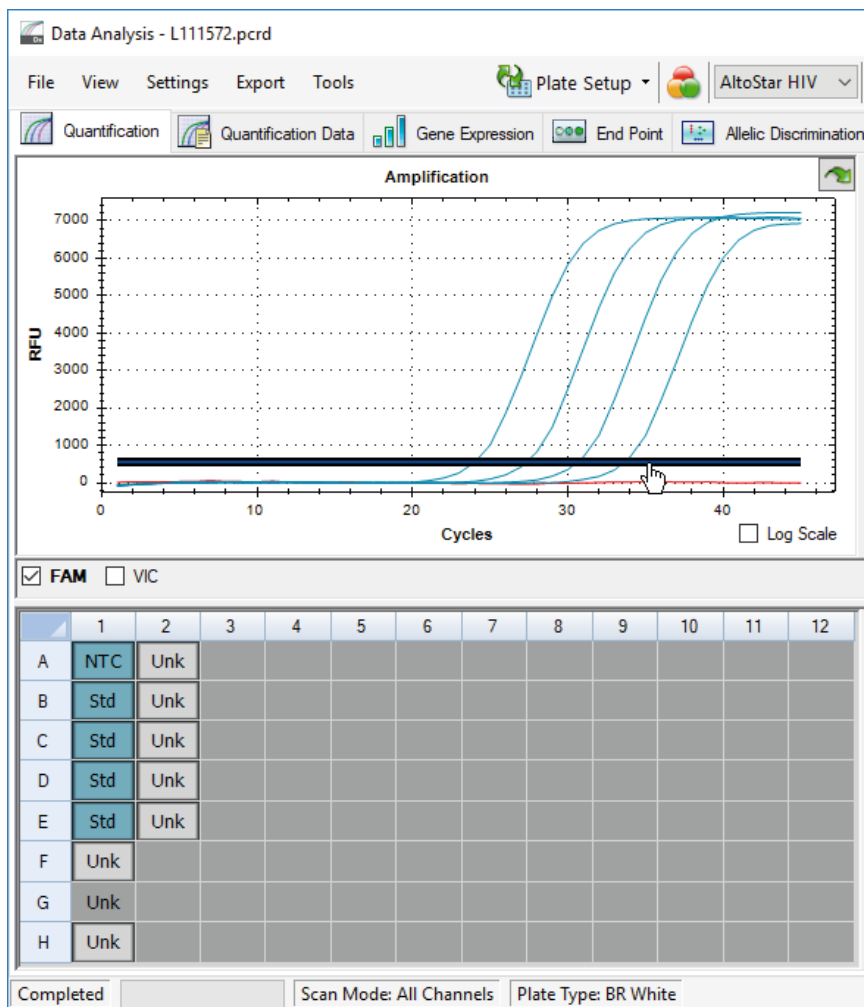

Figure 10: Data Analysis window: setting the FAM™ threshold
5. At the left side of the Data Analysis window untick the **VIC** checkbox and tick the **FAM** checkbox for the detection channel of the HIV target (see figure 10).
6. Select only the wells containing the NTC and the QS in the plate view of the Data Analysis window (see figure 10).
7. Drag the threshold well above the signal of the NTC into the exponential area of the QS signals (see figure 10).